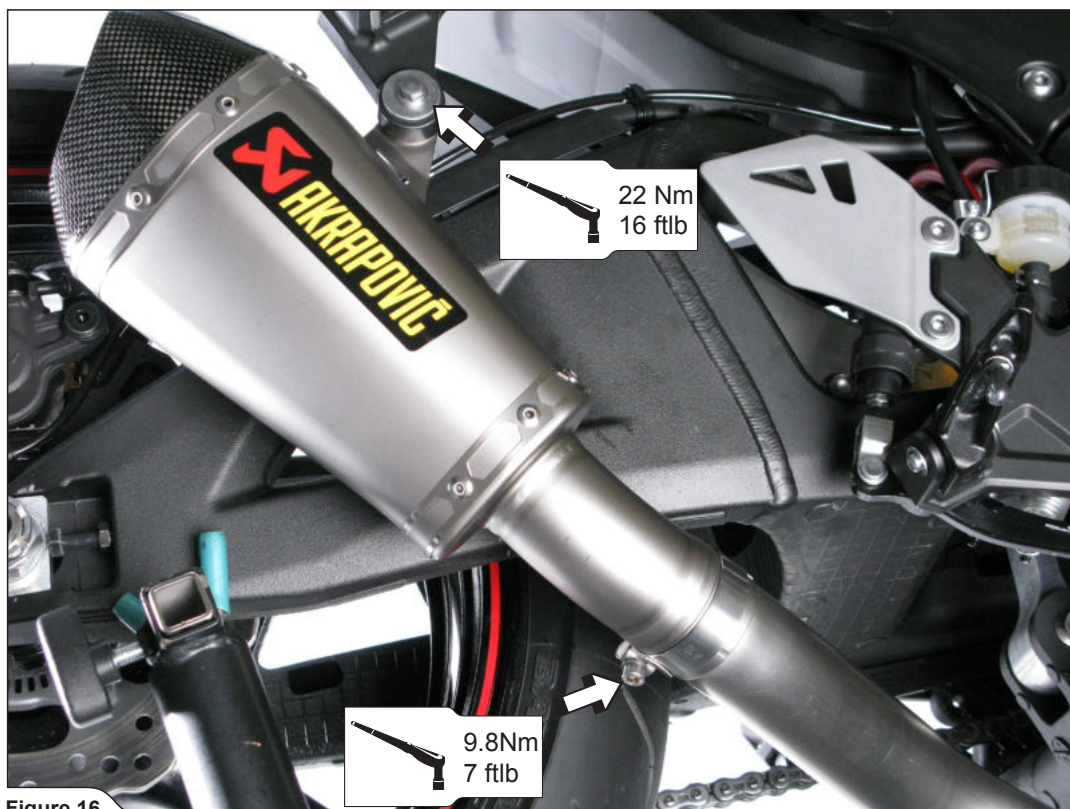

Figure 16
6. **For optional link pipe only:** slide the muffer onto the outlet side of the link pipe. Align the muffer in respect to the motorcycle and tighten the muffer bracket onto the passengers foot rest (using original bolt and nut) and metal clamp to the specified torques (**Figure 16**).